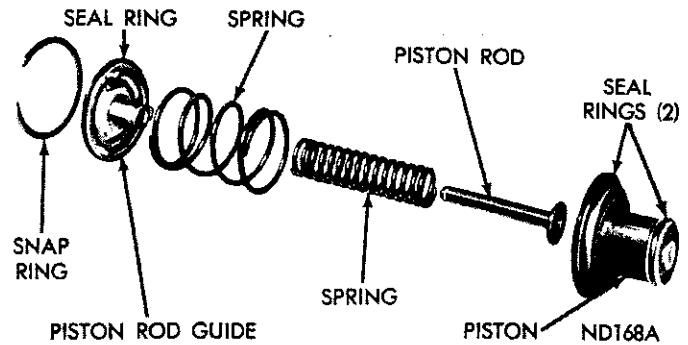

Fig. 81—Kickdown Servo
Figure 81 shows a disassembled view of the kickdown servo assembly. The larger outer spring shown in Figure 81 is not used in A-904 transmissions. Also, it is not used in maximum performance vehicles with A-727 transmissions.
(1) Carefully push servo piston into the case bore. Install piston rod, two springs and guide (Fig. 81). The A-904 transmissions use one small spring only. Also, one small spring only is used in the maximum performance vehicles with A-727 transmissions.
(2) Compress kickdown servo springs by using engine valve spring compressor Tool C-3422, then install snap ring.